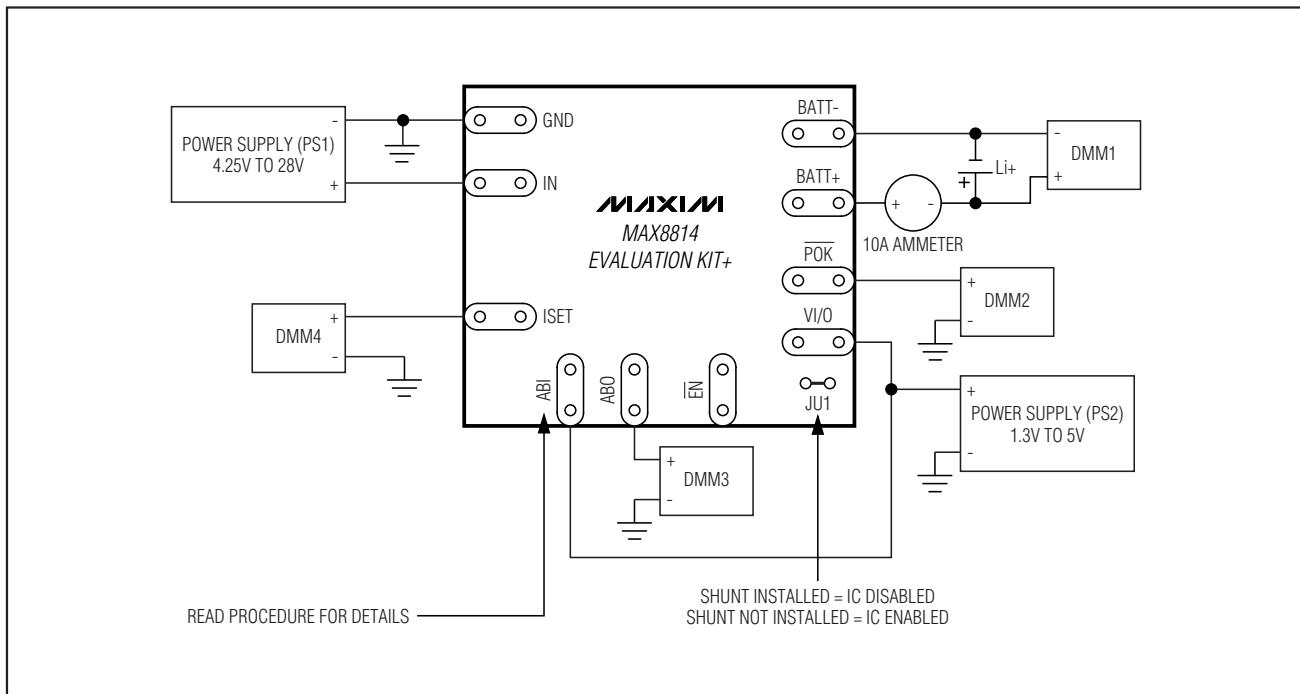

Figure 1. Test Procedure Setup for MAX8814 EV Kit
The MAX8814 EV kit is a fully assembled and tested surface-mount PCB. Follow the steps below and see Figure 1 to set up and verify board operation. **Caution: Do not turn on power supplies until all connections are made.**
- 6) Observe correct Li+ cell polarity. Connect a single-cell Li+ cell and 10A ammeter, as shown in Figure 1. The positive lead of the ammeter must connect to BATT+ and the negative lead to the positive terminal of the Li+ battery.
The MAX8814 charger uses voltage, current, and thermal-control loops to charge a single Li⁺ cell and protect the battery (Figure 1). When an Li⁺ battery with a cell voltage below 2.5V is inserted, the MAX8814 charger enters the prequalification stage where it precharges that cell with 10% of the user-programmed fast-charge current. When battery voltage reaches 2.5V, the charger soft-starts as it enters the fast-charge stage. In the MAX8814, the fast-charge current level is programmed through a resistor from ISET to GND. As the battery voltage approaches 4.2V, the charging current is reduced. Once the battery voltage reaches 4.2V, the IC then enters a constant voltage regulation mode to maintain the battery at full charge.
The MAX8814 contains an autobooting assistant circuit that generates an enable signal for system booting (ABO). The booting assistant functions as an internal “OR” gate (refer to Figure 1 in the MAX8814 IC data sheet for details). The first input is dependent on the state of the internal POK signal and the second input is an external signal applied to ABI.